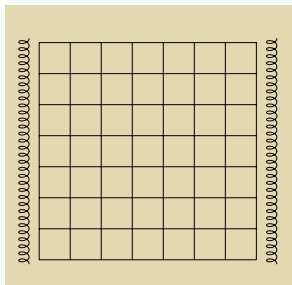

Figure 2
- Cut two coils to the patch's depth (*Figure 2*).
all round is generally sufficient (*Figure 2*).